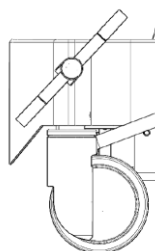

Figure 23
- 1) The shower trolley should be placed in a stable position for safe operation by blocking the wheels using the brake pedal (see Figure 23). Place shower trolley - art. 155030, 155030G and 155030C on a horizontal surface in a stable position. To prevent the movement of the shower trolley - art. 155030, 155030G and 155030C, and the fall of the patient, do not use this shower trolley - art. 155030, 155030G and 155030C on surfaces with depressed drains, holes or inclined surfaces that exceed a ratio of 1: 50 (1,15°).
- Activate the brake pedal of wheels (Figure 23)
- Reactivate the brake pedal of wheels (Figure 23)